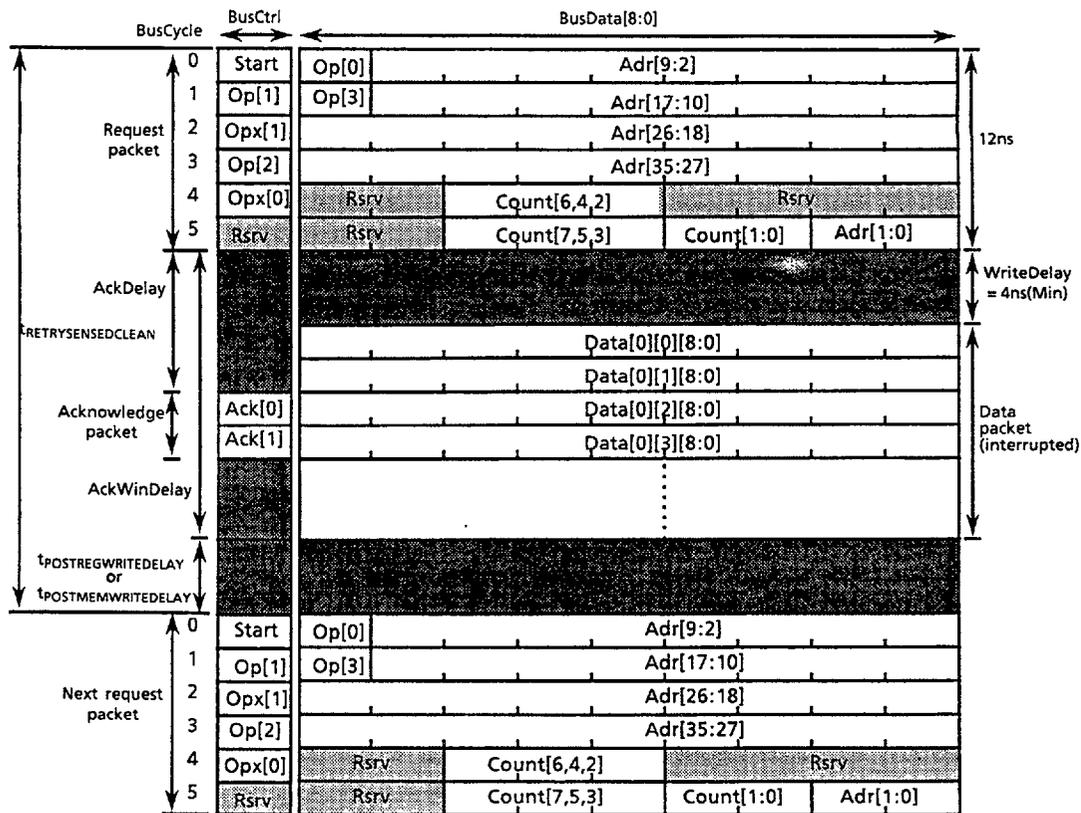

Figure 11. Write Operation for Memory or Register Address Space (Ackpacket = Nack or Nonexistent)
**(2) Write Operations When Nack or Nonexistent is Returned (see Figure 11)**